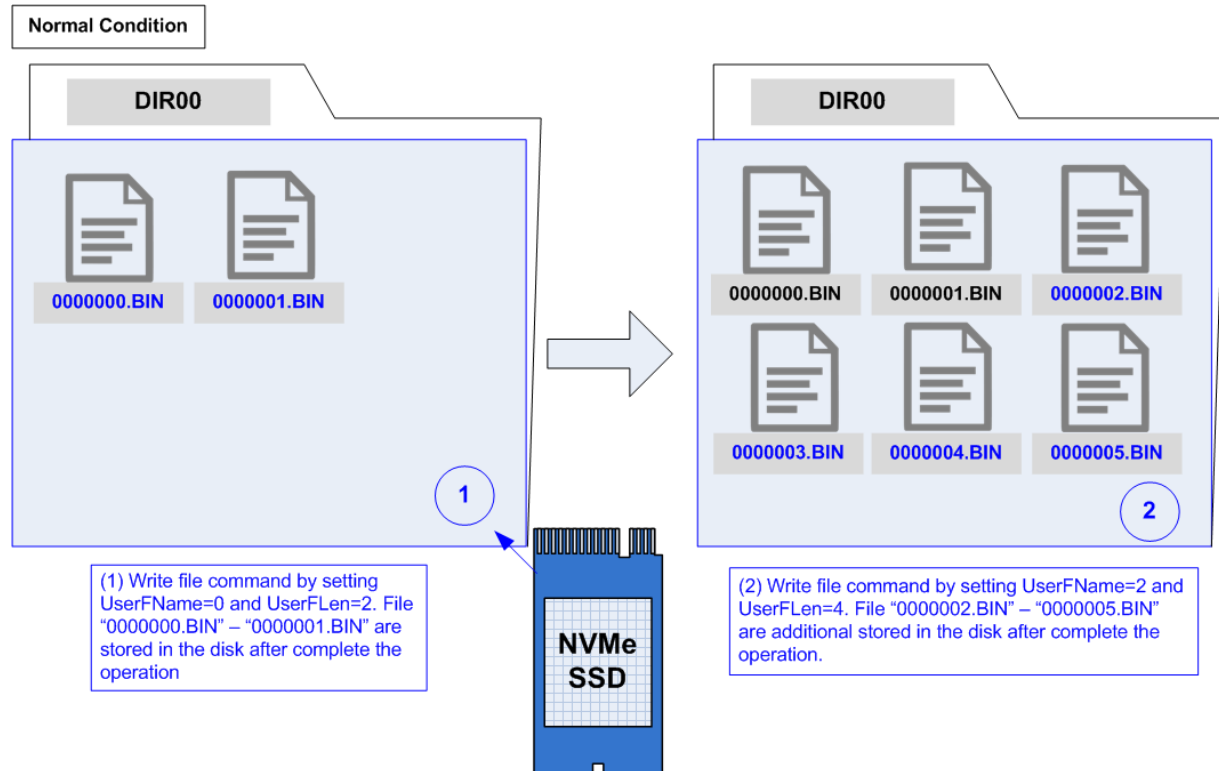

Figure 8: Write file command in normal condition
- (4) In Write file command, UserFName value must be the next value from the latest write file name. The example of correct parameter is shown in Figure 8.